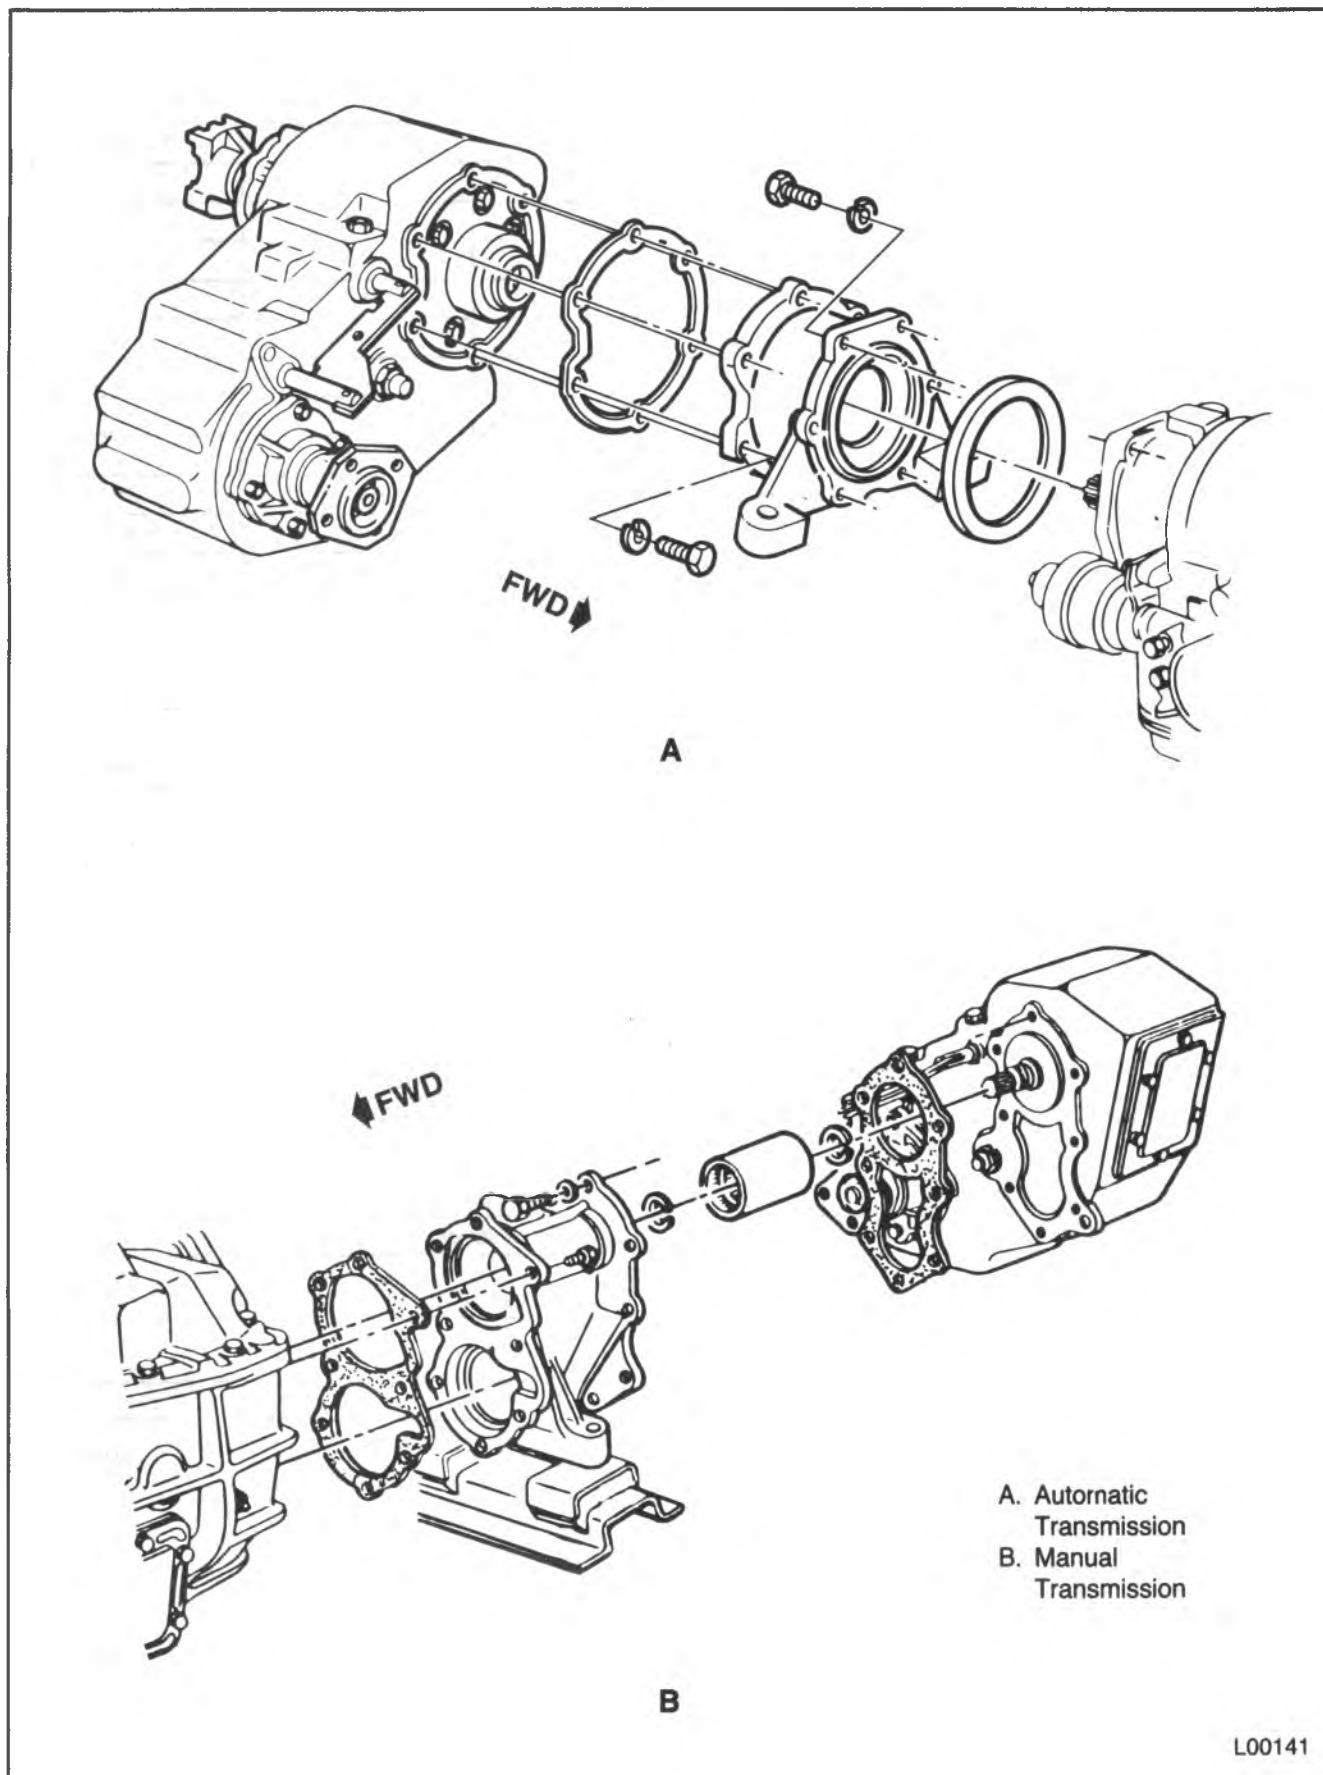

Figure 6 — Transmission Adapters
6. Bolts attaching the transfer case to the transmission adapter (figure 6).
1. Bolts attaching the case to the adapter (figure 6).